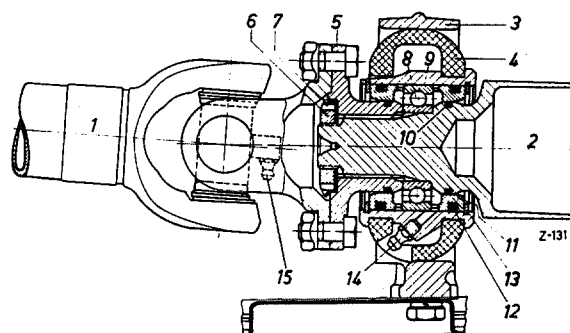

Fig. 41 — 4/4
9. Tap up the locking plate (7) and unscrew the grooved nut (6) by means of Special Wrench 187 589 06 07 (Fig. 41 — 4/4) and pull off the flange (5).
Then pull out the bearing bracket (3) and the rubber mounting (4) toward the front (see Fig. 41 — 4/4).